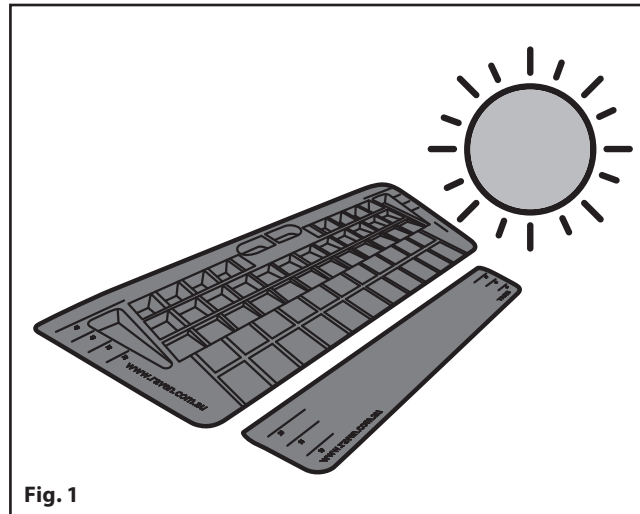

Fig. 1
1. Prior to a permanent adhesive installation, if possible, leave the rubber ramp upside down in full sunlight for a day (Fig. 1).